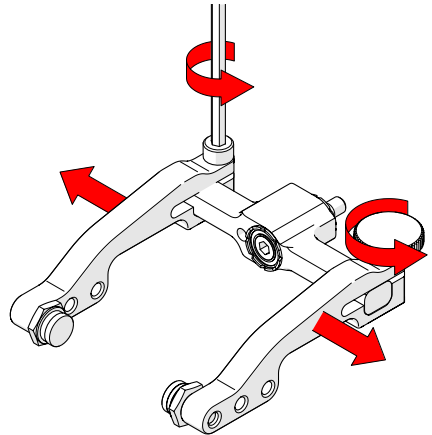

Fig. 168 - Remove arms
2. Loosen the probe holder arm adjustment knob and arm clamp screw. Slide the arms from the yoke (Fig. 168).